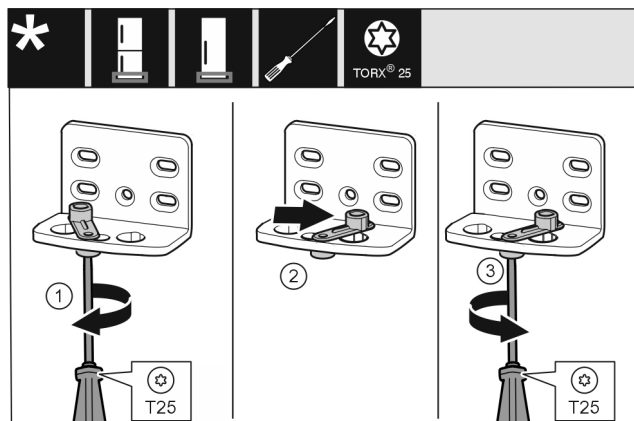

Fig. 13
- Loosen the screw using a T25 screwdriver. *Fig. 13 (1)*
- Lift the door closing aid and turn it 90° to the right in the hole. *Fig. 13 (2)*
- Tighten the screw using a T25 screwdriver. *Fig. 13 (3)*